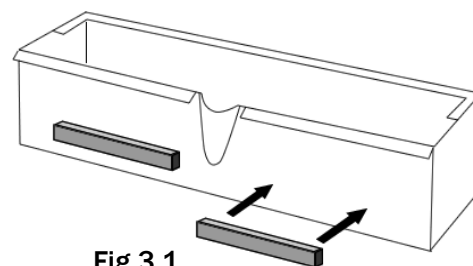

Fig 3.1
1. Locate the reservoir (L) and the EVA Cushion Strips (P). Peel the paper off the adhesive strip and place each pad about 1" up from the bottom of the reservoir and 3" in from each side as shown in the drawing (Fig 3.1). This step may already have been done at the factory.